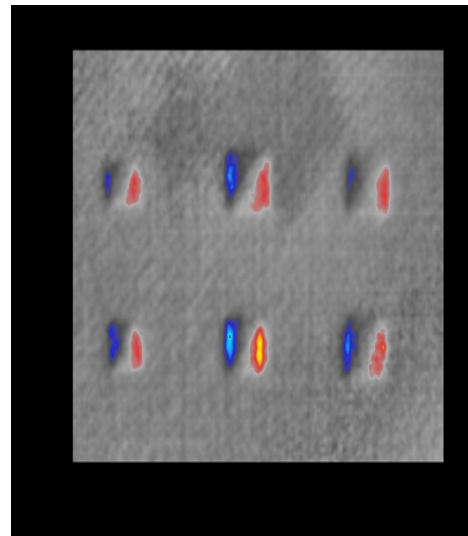

Figure 20. Picture of Lamination (by Ozzie Griffin, Public Domain)
**Laminations** are where nonmetallic materials form towards the center creating a void within that material (Figure 20). They are common in thick materials. Metal comes from the ground therefore it comes out with additional elements, rock, and dirt that may not be fully refined out. Laminations are out of the welders control but once identified, the faulty material must be removed from production. It is very critical for the materials to be taken out of production because once heat is introduced at that weld location it will change form and create our next discontinuity. More than likely if there is one bad piece of material there will be more. It may not all be at your location. Steels, as they are produced, are tracked and identified by what are known as the heat numbers. These are the numbers that you may see printed on the surface of that plate. This way the mill can identify when it was produced and the conditions at the time of production. Everything was recorded for that day when it was made. As that batch is sold and distributed, we can track where it went. It could be detrimental to the safety of all of us if defective steel is not tracked and discarded when determined to be flawed.